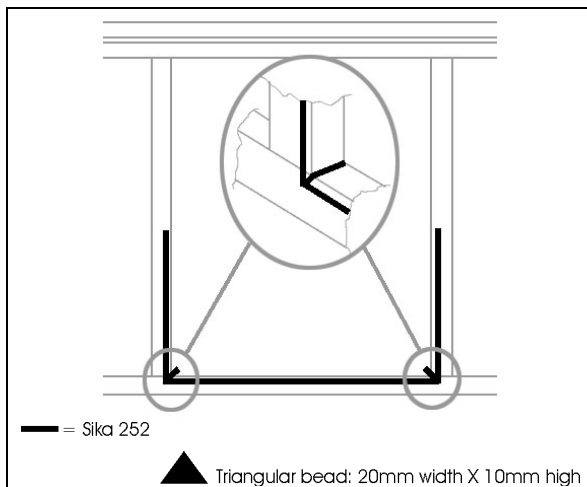

FIGURE 78 : SLIDING WINDOW - SIKa 252 APPLICATION
4. Apply Sika 252 as per FIGURE 78 (triangular bead: 20mm width X 10mm high [13/16" X 3/8"]).